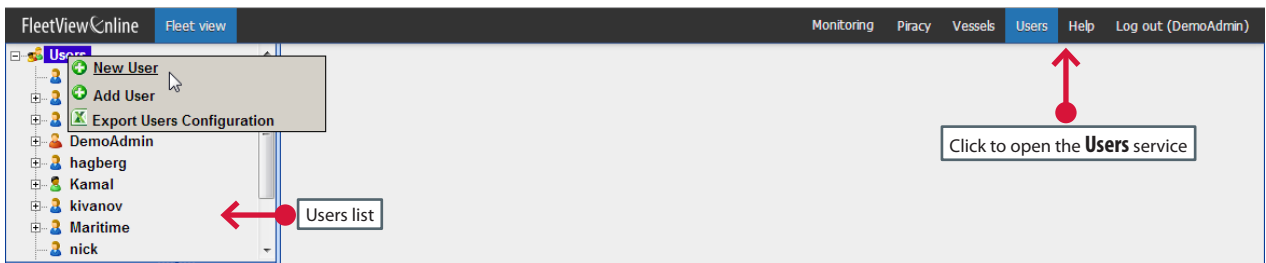

Figure 61. Creating new user
- › Right-click the **Users** sub tree and choose the **New User** item from the pop-up menu to create a new user (see “Figure 61. Creating new user” on page 51). The right-hand side of the screen will display the User settings: